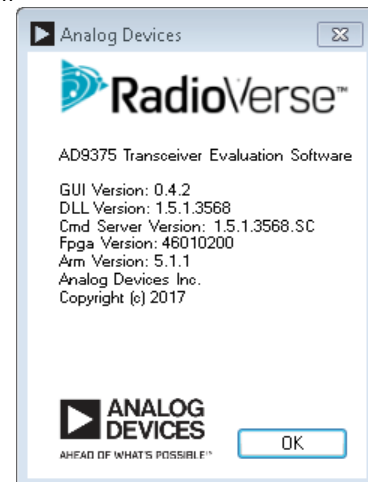

Figure 54. AD9375 SCES Help/About Window
- **About** opens a window containing information about the SCES and DLL versions installed on the PC of the user, as well as software and firmware versions installed on the EVAL-TPG-ZYNQ3 SD card. It also displays information about the AD9375 internal ARM firmware version (see Figure 54).